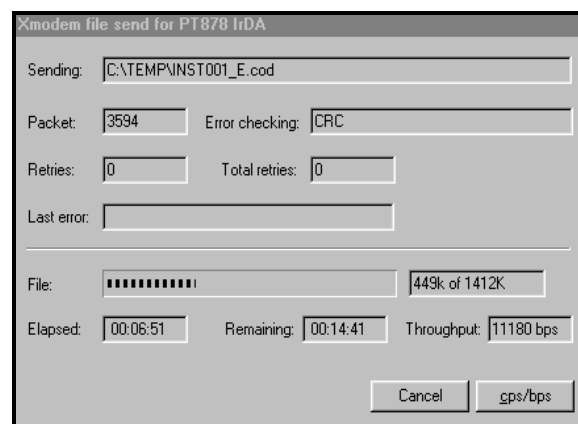

Figure 161: The File Transmission Window
4. Click *Send*. For a successful transfer, the PC window appears similar to Figure 161 below, while the PT878GC screen displays the program ID, size, load address and a count of blocks being loaded.